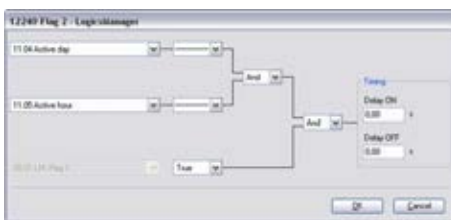

Fig. 158: LogicsManager function "Flag 2"
2. ➤ Configure the LogicsManager function "Flag 2" (parameter 12240 ↪ p. 330) as shown in (Fig. 158).